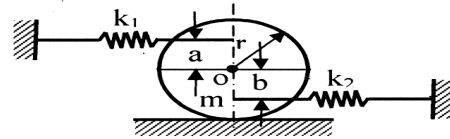

Fig.2, Q. No. 1 (c), P08AU65
- c. Determine the natural frequency of oscillation of the homogeneous cylinder of mass 'm' and radius r^2 as shown in Fig. 2 Q.1. (c). 8